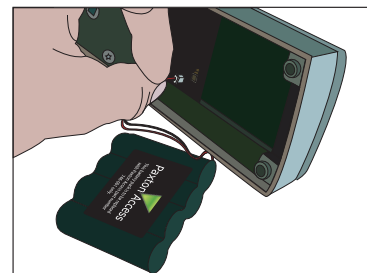

Fig 3
4. Unplug the lead and replace the pack with a new Paxton Access battery pack. - Fig 3.